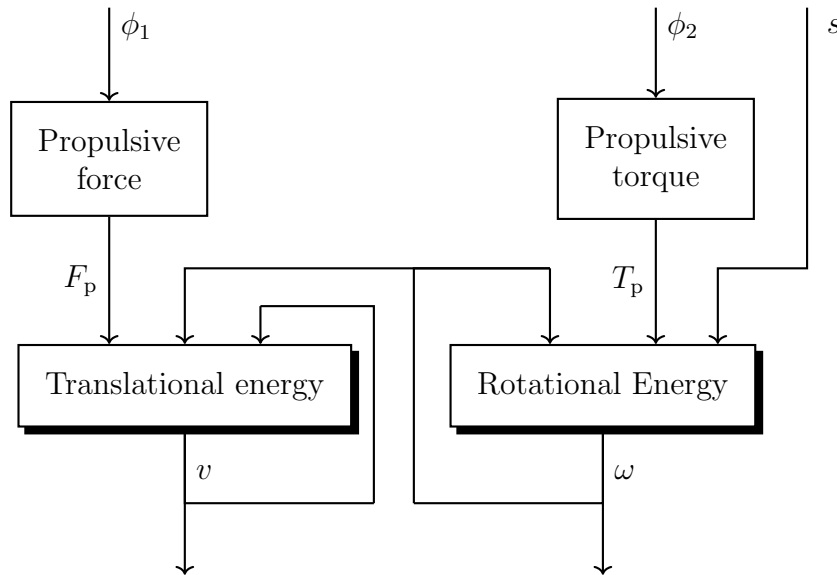

Figure 3: Causality diagram of the system.
3. The causality diagram is shown in Figure 3.